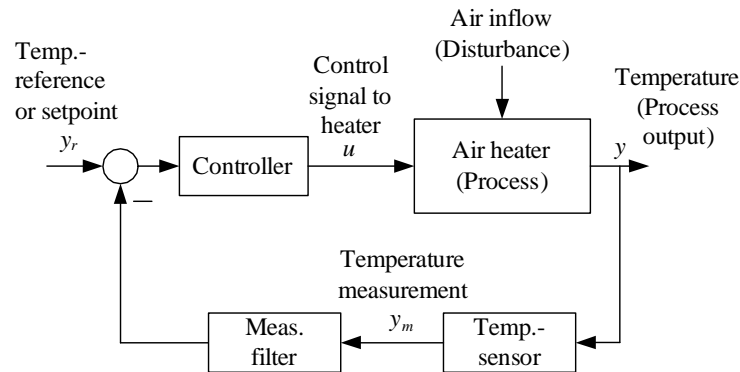

Figure 12.13:
1. The block diagram is shown in Figure 12.13.